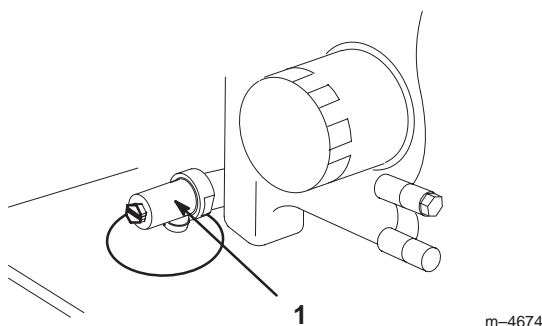

Figure 37
3. Place a pan below the oil drain. Use either a flat screw driver, 3/8 inch or 10 mm wrench to open valve (Fig. 37).
4. Rotate valve end clockwise to close valve. Rotate valve end counterclockwise to open valve (Fig. 37).
5. When oil has drained completely, close the drain valve (Fig. 37).